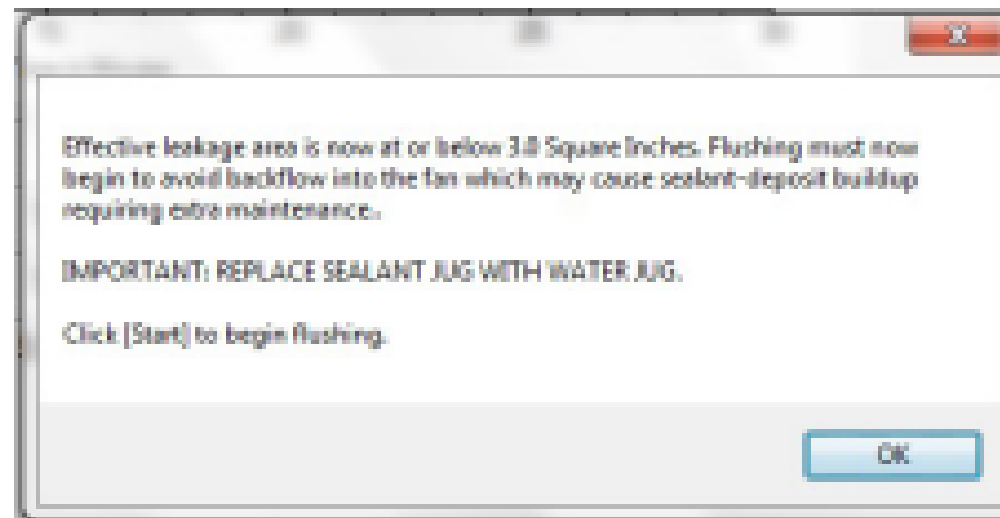

Figure 9. Flush Alert
21. When Flushing is selected, replace sealant bottle with a water bottle. (See Figure 9)